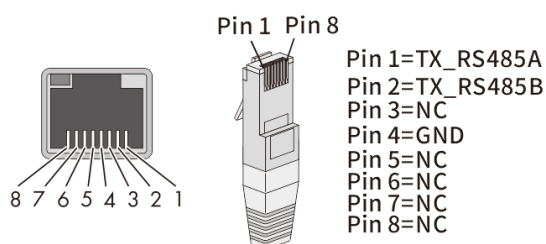

Fig. 27: cable pin assignment
- 1 Strip the wire as shown in the figure 27 and crimp the copper wire to the appropriate terminal (according to DIN 46228-4, provided by the customer).